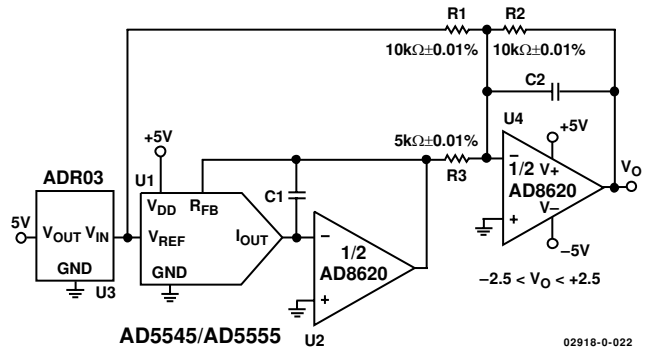

Figure 22. Four-Quadrant Multiplying Application Circuit
In some applications, it may be necessary to generate the full 4-quadrant multiplying capability or a bipolar output swing. This is easily accomplished by using an additional external amplifier, U4, configured as a summing amplifier (see Figure 22). In this circuit, the second amplifier, U4, provides a gain of 2, which increases the output span magnitude to 5 V. Biasing the external amplifier with a 2.5 V offset from the reference voltage results in a full 4-quadrant multiplying circuit. The transfer equation of this circuit shows that both negative and positive output voltages are created because the input data (D) is incremented from code zero ( $V_{OUT} = -2.5\text{ V}$ ) to midscale ( $V_{OUT} = 0\text{ V}$ ) to full scale ( $V_{OUT} = +2.5\text{ V}$ ).